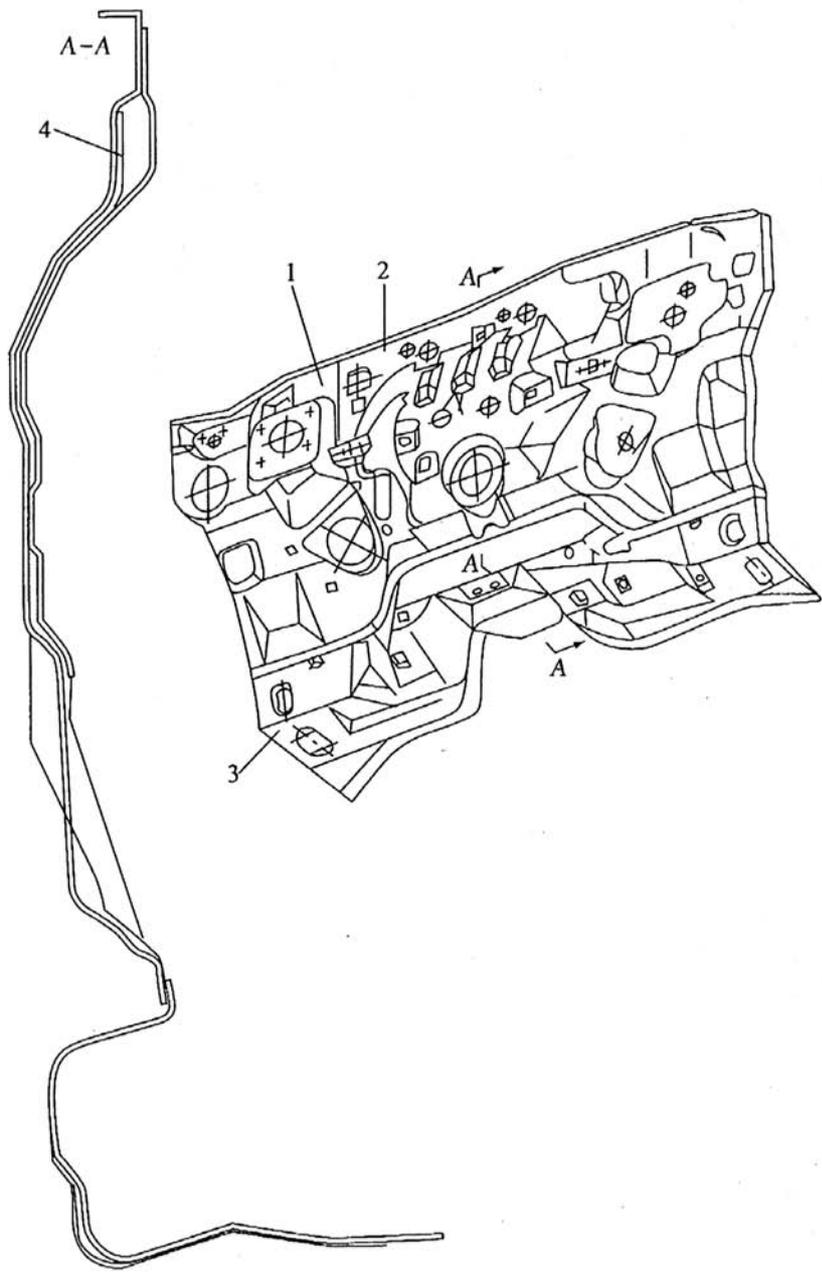

Figure 5-24 COWL
- c. Increasing the thickness of the cowl is very effective to insulate sound. The cowl is adopted sandwich structure, (Figure 5-24) that is, the cowl is welded by two steel plates (Cowl and heat insulating board), and in the interlayer of the 2 plates lies a heat insulating pad (the material of it is asphalt piece).